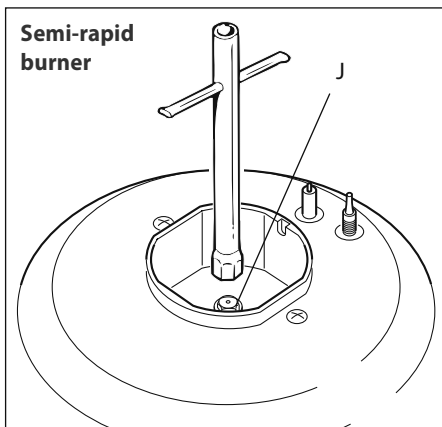

Fig. 8a
- Using a wrench, substitute the nozzle injectors "J" (figs. 8a - 8b - 8c) with those most suitable for the kind of gas used.